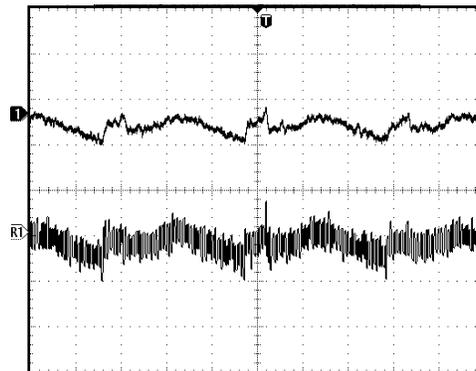

Figure 1. 20 MHz BW (top) and 300 MHz BW (bottom)
Figure 1 shows the difference between an output voltage ripple measurement of a buck converter (24V to 3.3V@ 2A) with 20MHz measurement bandwidth (BW) and with full BW. While the full bandwidth ripple/noise amplitude of about 18mV p-p is good, it may not be sufficient for some SDI applications and could limit their performance. For discussion purposes in this article, all ripple and noise references will be full BW unless noted otherwise.